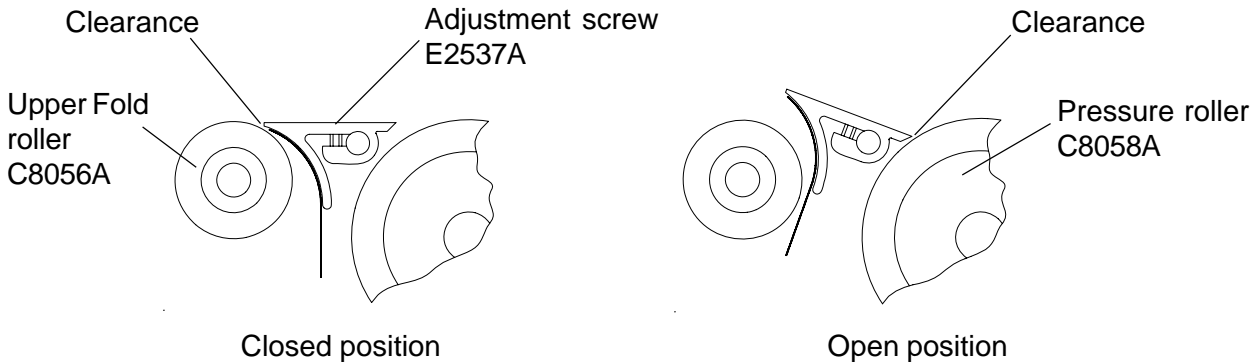

FIG. 2
The diverters should be adjusted to meet the conditions shown in Fig.2 above. A clearance of .005" (.13mm) must exist between the leading tip of diverter and upper fold roller when closed, and between trailing tip and pressure roller when open. All diverters must be in line on the shaft.
4. Slide the solenoid bracket back (so opening the diverters) until it just touches the paper at the tips in the closed position (see Fig. 2 above).
6. Open the diverters to check clearance in the open position (see Fig. 2 above).